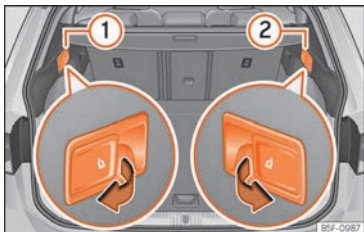

Fig. 164 In the trunk: levers for remote release of the left part ① and right part ② of the rear seat backrest.
- Pull the remote release lever of the left part »» Fig. 164 ① or right part ② of the backrest in the direction of the arrow. The released